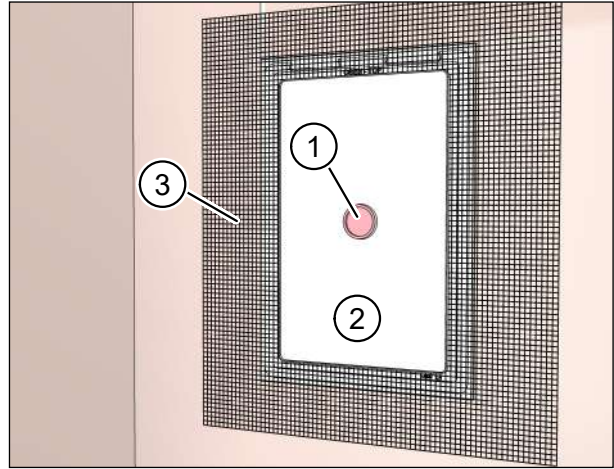

Fig. 31: Plastering the installation kit on the inside
- ▶ Make sure that the signal cover (item 1 in Fig. 31) is seated in the plaster cover (item 2 in Fig. 31).
- ▶ Apply the plaster scrim M-WRG-II PG (item 3 in Fig. 31) to the installation kit and the solid wall.